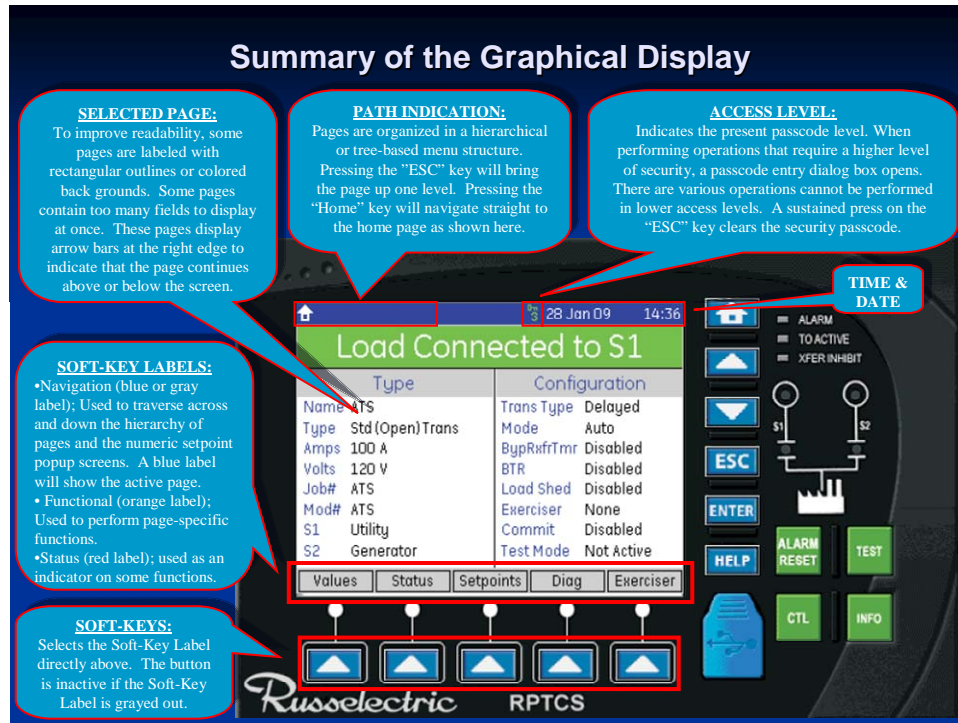

Figure 23: Summary of the Graphical Display
2. Verify the current position of the transfer switch by observing the position indicator labels on the S1 and S2 cross arms (see figure 23). There is a mechanical interlock on the transfer switch that prevents the switch from being connected to both sources at the same time. On dual operator switches the closed source must be opened first, and then the open source can be closed.